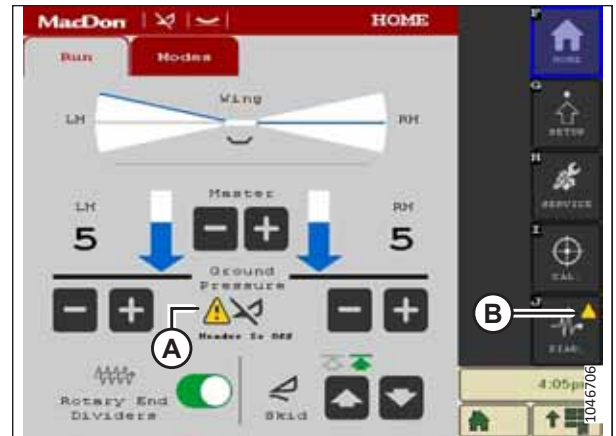

Figure 4.17: FlexCorn™ Application – Home Page
- For more indications that a fault is active, refer to Figure 4.17, page 61.